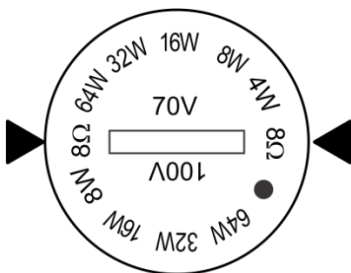

Figure 7: Adjust Tap Selector
10. Adjust each speaker to the appropriate tap setting before installing the grille (see Figure 7).